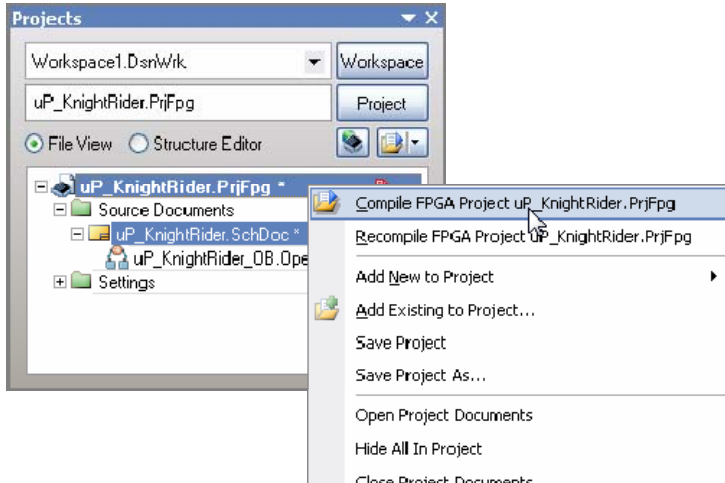

Figure 8. When the project is compiled the OpenBus document will become a child document of the schematic.
17. Right-click on the Snd2Light.PrjFpg project file in the Projects panel, and select **Compile** from the menu. When the project is compiled the OpenBus document will move to become a child of the schematic document, as shown in Figure 8. **Note:** You will receive compiler errors in the Messages panel because we have not completed the wiring yet – you can ignore these and close the Messages panel for now.